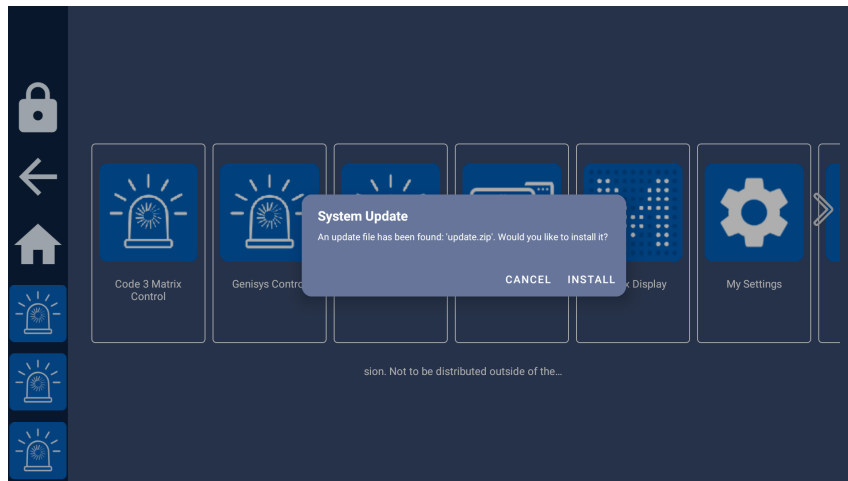

Figure 26: Update dialog
4. After a few seconds, a dialog will pop up, notifying that an update has been found on the USB drive (see Figure 26). Select "Install" to install it.